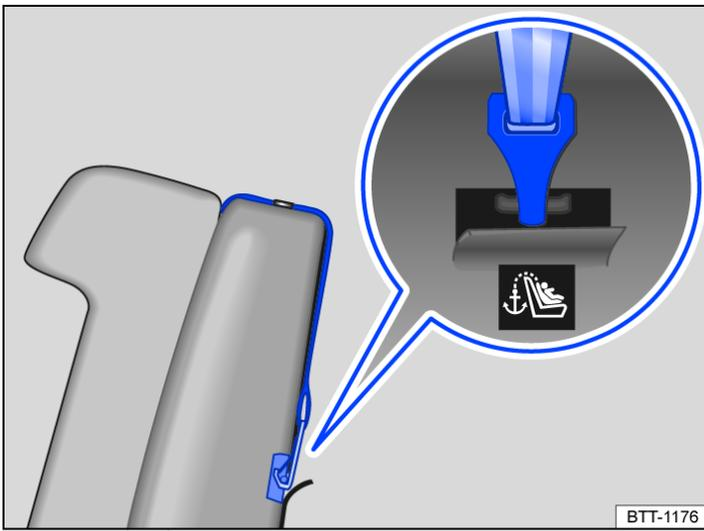

Fig. 1 On the back of the rear bench seat: anchor rings for the top tether.
- Guide the top tether of the child seat to the rear into the luggage compartment and hook it into the top tether anchor ring in the rear seat backrest → *Fig. 1*.